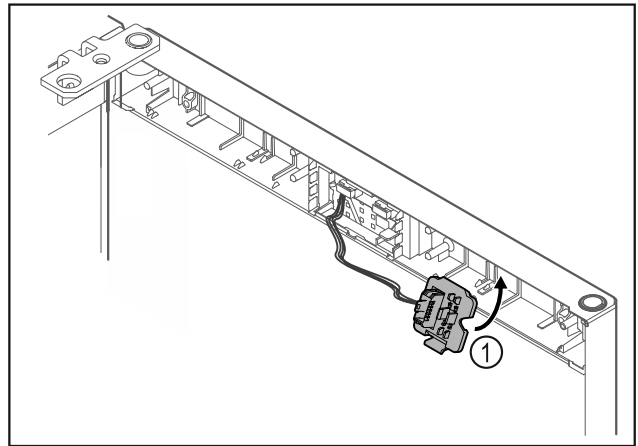

Fig. 18
- Snap in the plug holder Fig. 18 (1) on the opposite side.